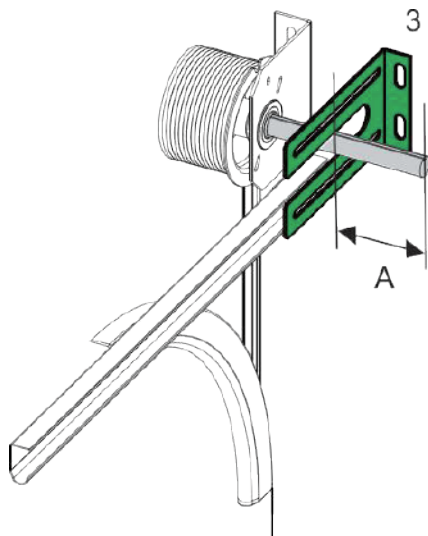

Fig 1
Install the torque bracket (3) as shown in Fig. 1. Make sure that the drive shaft for the door can extend at least 135 mm (dimension A) in the door operator to be installed.